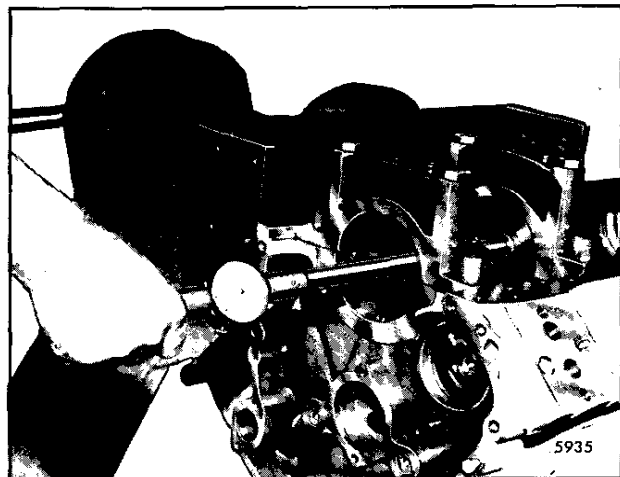

Fig. 9 - Measuring Main Bearing Bores
- Check the bore diameters with the main bearing caps in their original positions (Fig. 9). Lubricate the bolt threads and bolt head contact area with a small quantity of International Compound No. 2, or equivalent. Then, install and tighten the outer